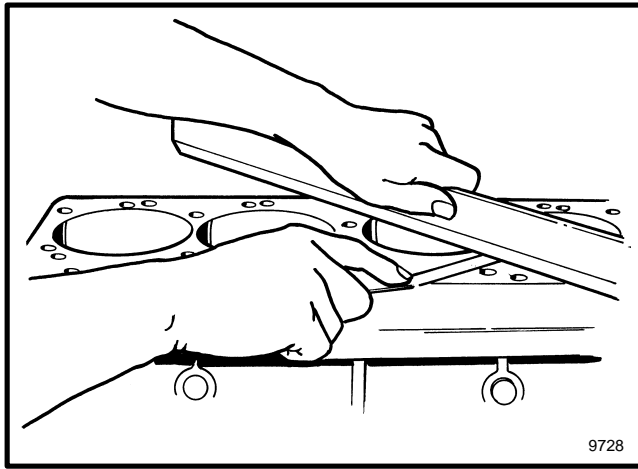

FIGURE 56. MEASURE THE CYLINDER LINER POSITION
4. Measure the position of the cylinder liner. The cylinder liner must extend 0.10 mm (0.004 in) above the surface of the crankcase. See FIGURE 56.